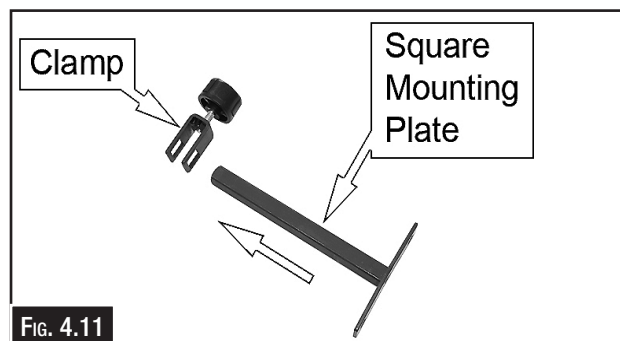

FIG. 4.11
3. Slide the square mounting plate into the clamp as shown in Fig. 4.11.